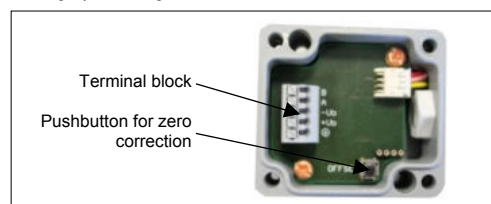

Fig. 2: Terminal box
2. Press the button (Fig. 2) for about 3 seconds.